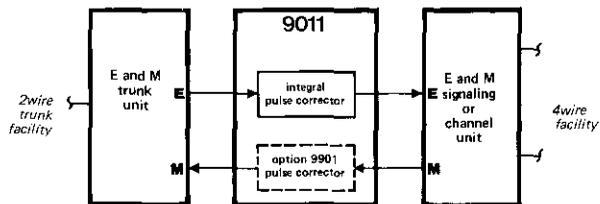

figure 2. Typical use as Pulse Corrector
2.04 When applied as a Dual Pulse Corrector, the 9011 is used to condition dial pulses in a two-way-dial E and M channel. In this mode of application, E-lead inputs derive E-lead outputs and M-lead inputs derive M-lead outputs. When the optional 9901 Pulse Corrector subassembly is not utilized, the 9011 module may also be applied as a simple, one-way, E-lead pulse corrector. See figure 2.